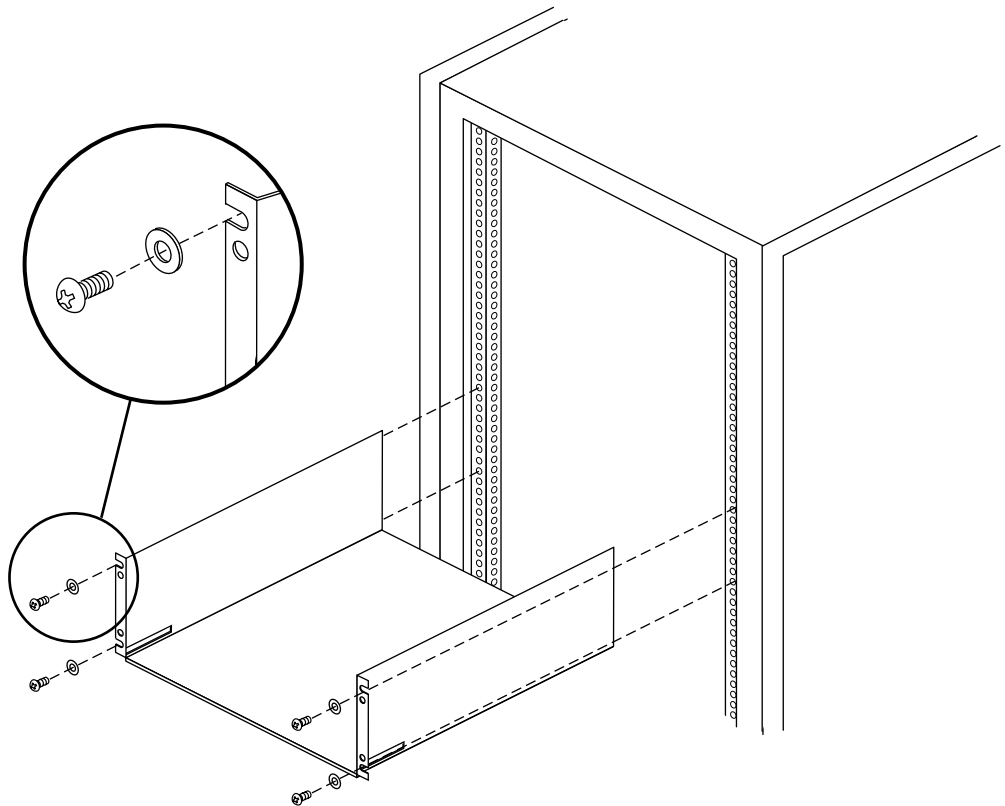

Figure 3-4 Installing the Rackmounting Shelf
- Place a washer between each screw head and the mounting shelf, as shown in Figure 3-4.